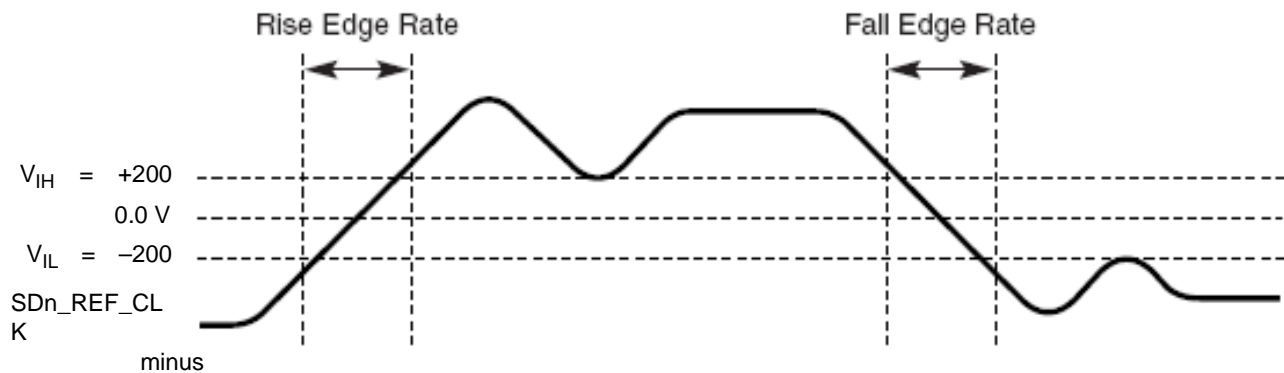

Figure 47. Differential Measurement Points for Rise and Fall Time
The differential waveform is constructed by subtracting the inverting signal (\overline{TXn} , for example) from the non-inverting signal (TXn , for example) within a differential pair. There is only one signal trace curve in a differential waveform. The voltage represented in the differential waveform is not referenced to ground. Refer to Figure 47 as an example for differential waveform.
3. Measured from -200 mV to +200 mV on the differential waveform (derived from $\overline{SDn_REF_CLK}$ minus SDn_REF_CLK). The signal must be monotonic through the measurement region for rise and fall time. The 400 mV measurement window is centered on the differential zero crossing. See Figure 47.